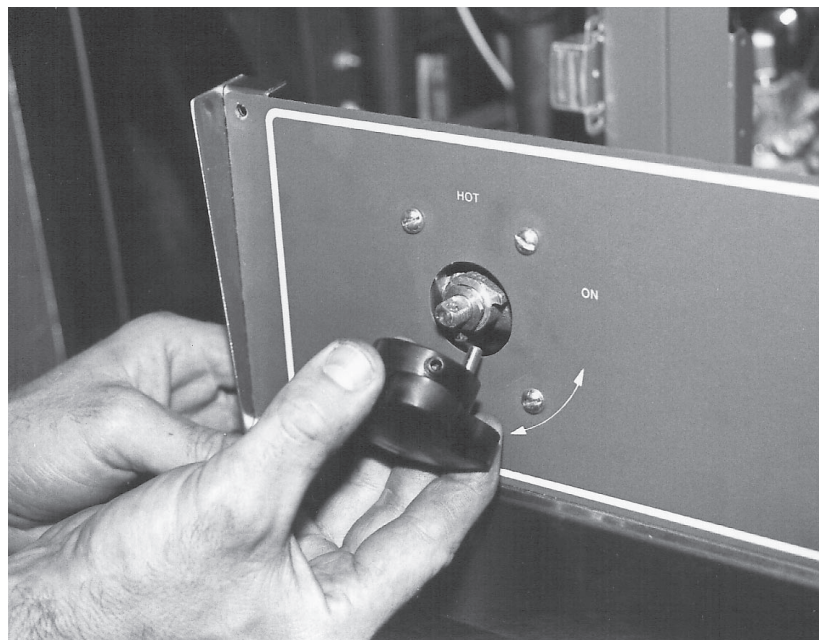

Fig. 13
5. Pull knobs from the appliance. (Fig 13)